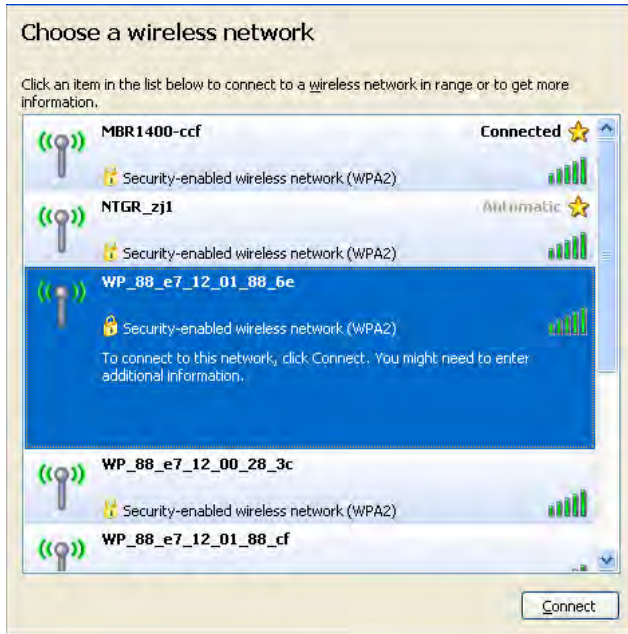

Figure 11 - Select Appliance
- Select the appliance from the list. It will be identified with the characters of the MAC ADDRESS but with different punctuation (ex. WP_88_e7_12_01_88_6e). Select the appliance, then click "Connect". If the appliance is not listed, you may need to refresh the list of available wireless networks (see Figure 11).